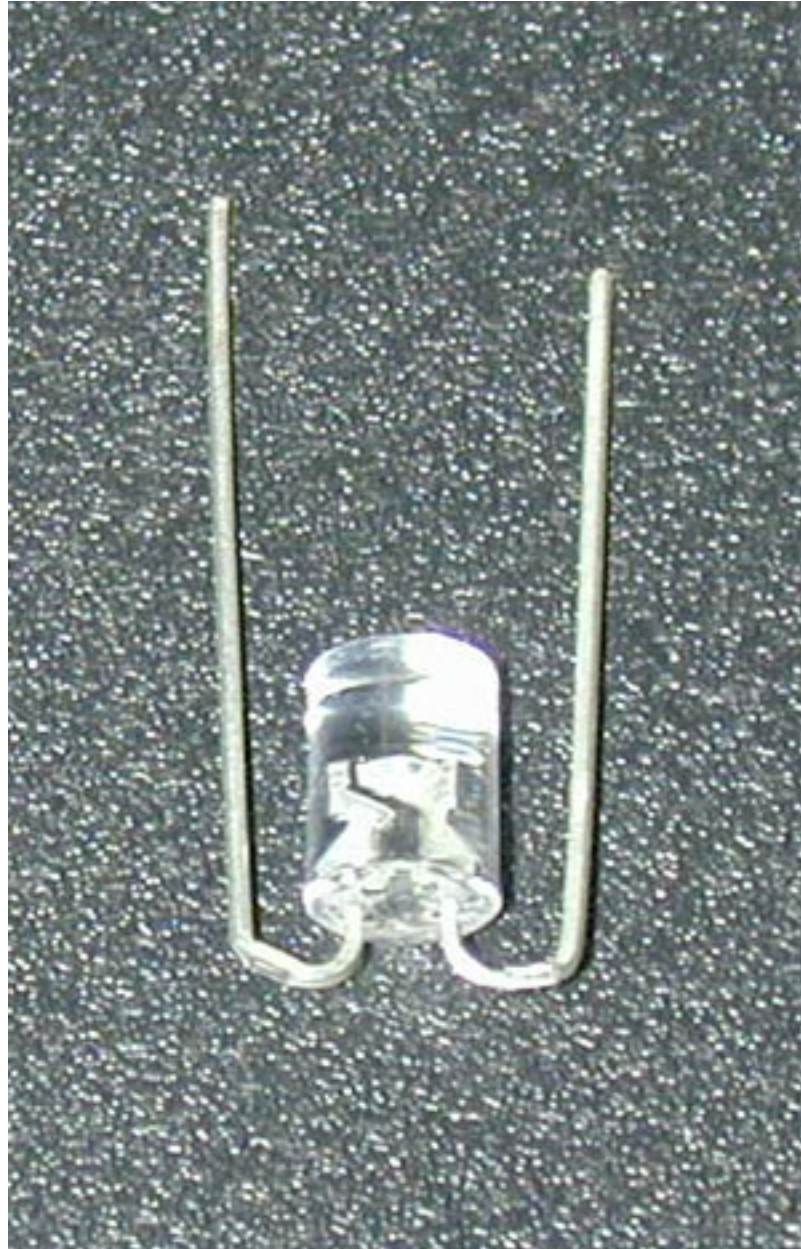

Figure 8. Logo LED Lead Forming (shorter lead is the cathode lead)
5. [] Install White LEDs in the six Phase Linear logo positions marked LED9 - LED14. Each White LED must be formed as shown in Figure 8. If you are forming the leads, use a 1/16" diameter drill as the mandrel to shape the leads as shown in Figure 8. The shorter of the 2 leads on the LED is the cathode (-) lead. The PCB silkscreen has a bar on it that indicates the cathode pin location. The pad for the cathode also has a square shape. Insert each LED into the 2 holes in the PCB while observing the correct polarity. The flat lens end should be positioned such that it is flush with the solder side of the PCB before soldering into place. This is a critical alignment to ensure that the Phase Linear logo is properly illuminated. Use the wooden shim supplied in the kit and 2 rubber bands to position it as shown in Figure 9 below. This will ensure that the lens face is the proper distance from the front panel to properly backlight the logo. Repeat this alignment and soldering for all 6 of the WHITE LEDs.
the two leads coming out of the LED (see detail in Figure 9) and is easier to detect than the flat on the body. The board silkscreen is printed so that it shows this flat. **Caution: Bend four LEDs in one direction as shown in Figure 13 and the other four in the opposite direction.** Make sure you install the LEDs with the correct polarity or the light board will not work and you may damage the LEDs or your amplifier, the short cathode lead or flat on the LED body must be oriented to align with the flat silkscreened onto the PCB artwork. Also ensure that you install the LEDs so they point (shine) in the proper direction. The board is asymmetrical with respect to the mounting holes for the board. Look carefully at Figure 12 and Figure 14 for proper orientation. All eight LEDs should point towards the four meter mounting holes of the board as shown in Figure 8 and Figure 10.